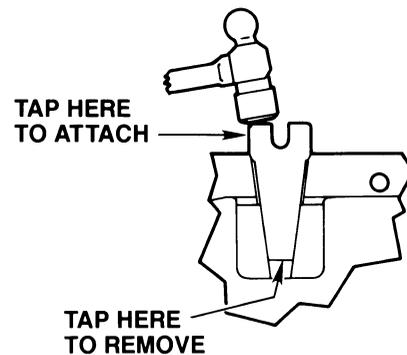

Figure 2
3. Install two (2) 1/2" diameter mounting bolts in the lower positions on mounting surface.
- Insert four (4) wedge shaped mounting feet into dovetail slots in enclosure body.
- Tap each foot with hammer to securely tighten into slot. See Figure 2.